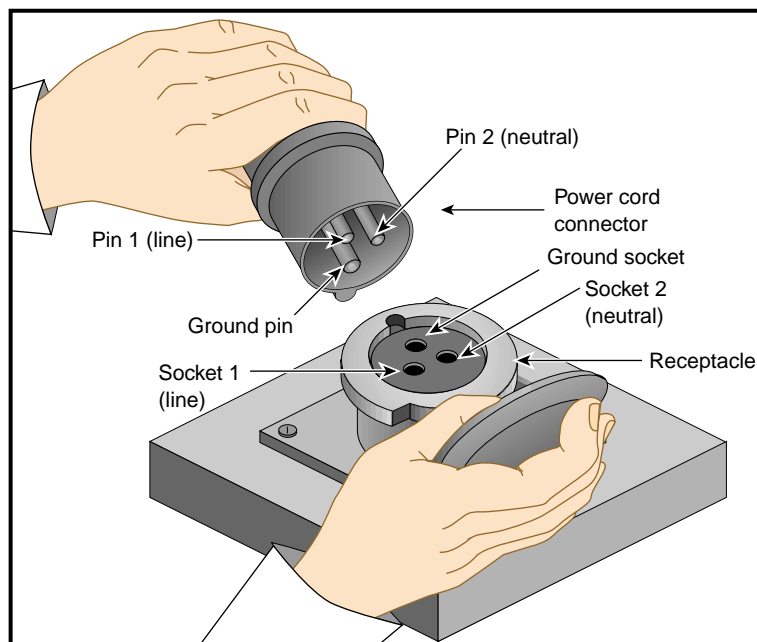

Figure C-2 32-amp Single-phase Power Plug for International Sites
2. Check the voltage between socket 1 and socket 2 (see Figure C-2). The meter should read between 200 and 240 VAC.